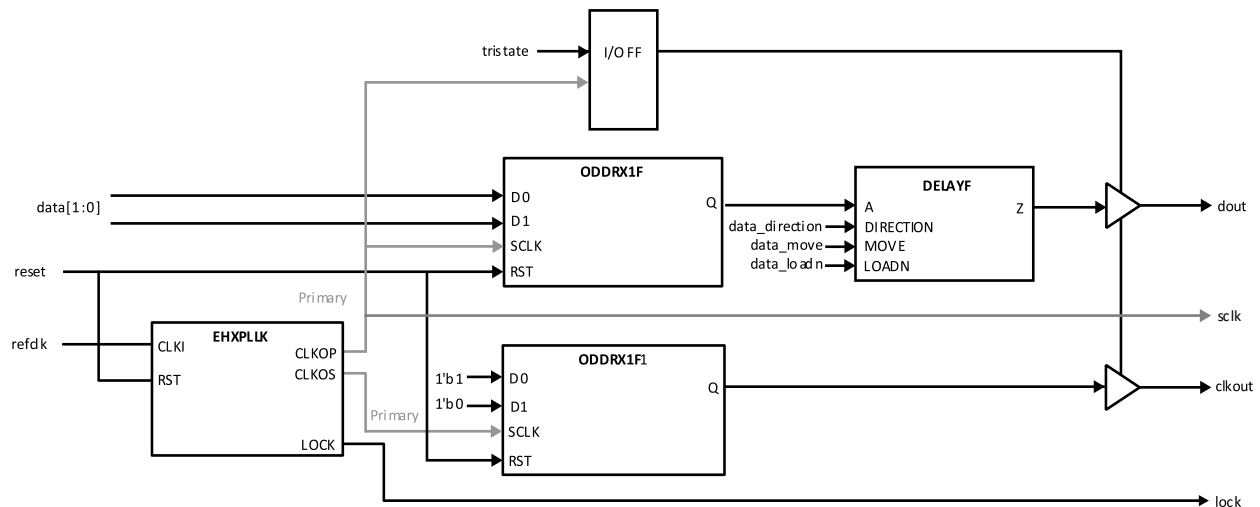

Figure 5.21. GDDR1_TX.SCLK.Centered Interface (with Registered Tristate and Optional Dynamic Delay)
- The DELAYG or DELAYF element to delay the output data before sending out to the I/O pad. DELAYG is used with a static delay, DELAYF is used with dynamic delay. This is not shown in the following diagrams but the implementation is similar to Figure 5.21.